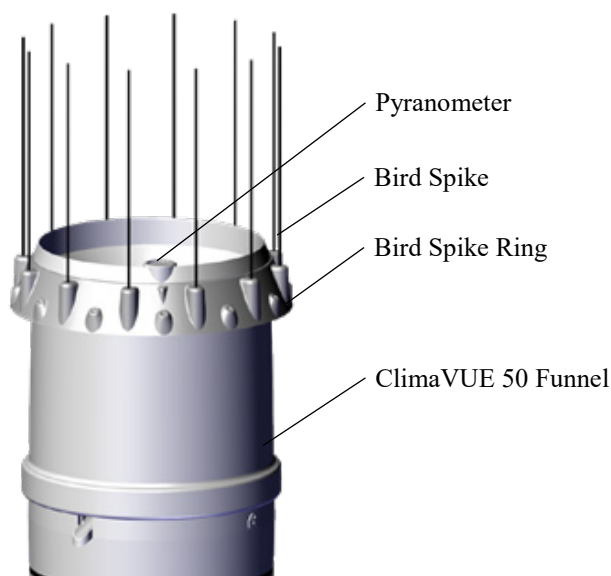

FIGURE 7-7. Bird-spike kit mounted properly
6. Position the ring on top of the ClimaVUE 50 with the pyranometer aligned with the triangle between two spikes (FIGURE 7-7); this will limit spike shadows on the sensor.
7. Press finished bird deterrent onto the ClimavUE 50 funnel to at least the depth shown in FIGURE 7-7.